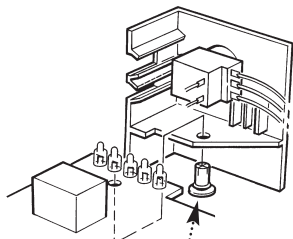

Fig. 112
5. Carefully withdraw the centre pin from the retaining rivet which then allows the retaining rivet to be removed. Remove the thermostat control panel (Fig. 112). (On reassembling ensure the control panel is located over the retaining rivet body before inserting the centre pin.)